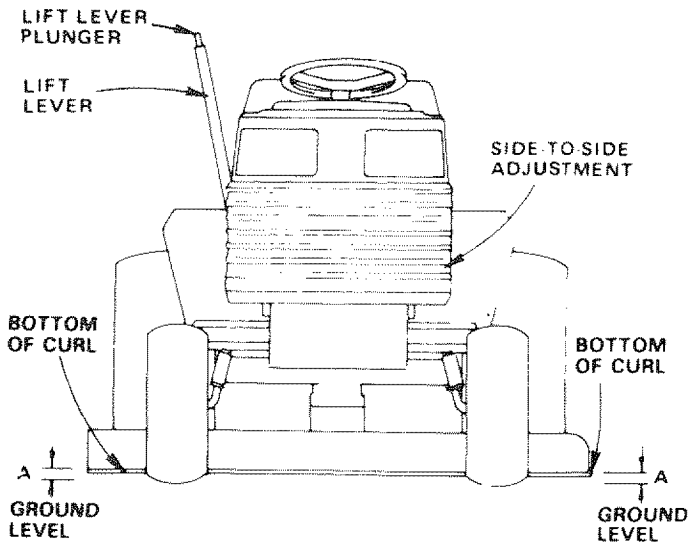

FIGURE 38
- Measure height from bottom of curl to ground level at front of mower. Distance "A" should be the same on both sides of mower (Fig. 38).